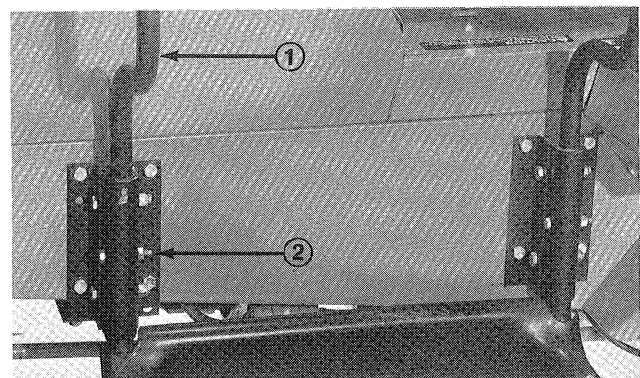

Figure 5
2. Insert legs of upper support tube assy. into lower support tubes and secure with (2)  $\frac{5}{16}$ -18x2- $\frac{1}{4}$ " lg. capscrews and locknuts (Fig. 5).